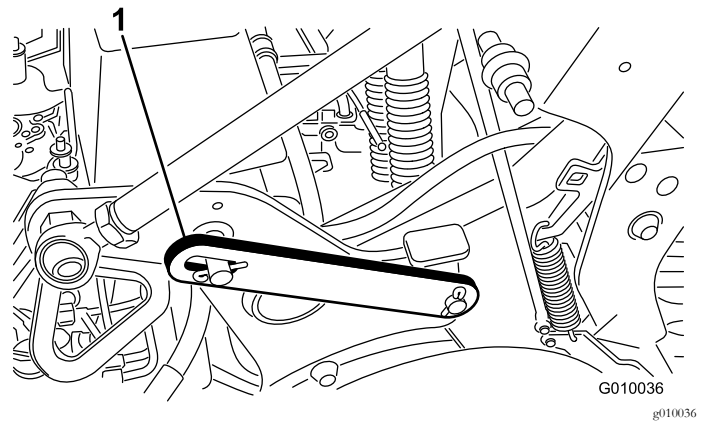

Figure 20
3. Remove the clip ring securing the service latch in the storage position (Figure 20).